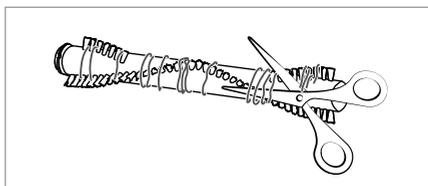

Fig. 28
- 4) Cut threads and hairs along the bristles of the rotary brush **20** with scissors (see Fig. 28). Remove threads and hair from the rotary brush **20**.